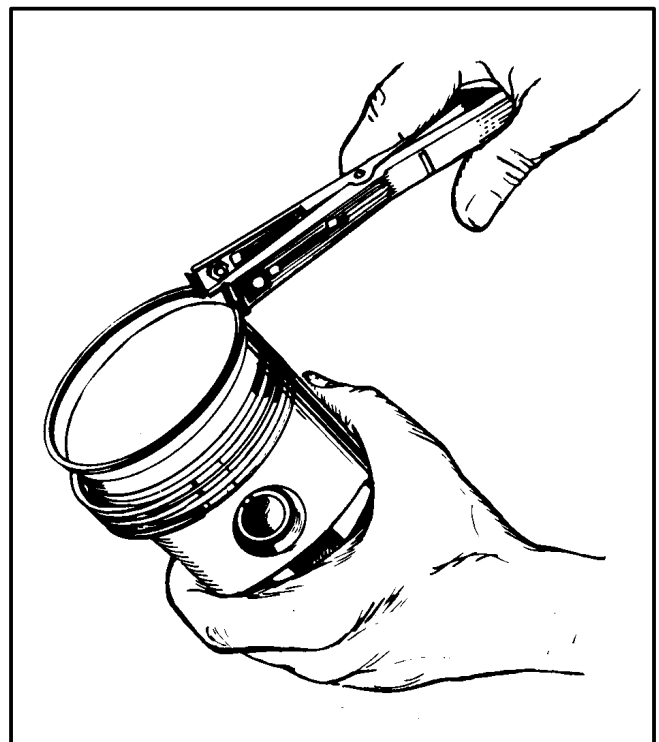

FIGURE 10-15. REMOVING PISTON RINGS
6. Remove the piston rings from the piston with a piston ring spreader (see Figure 10-15). Remove the piston pin retaining and push the piston pin out.